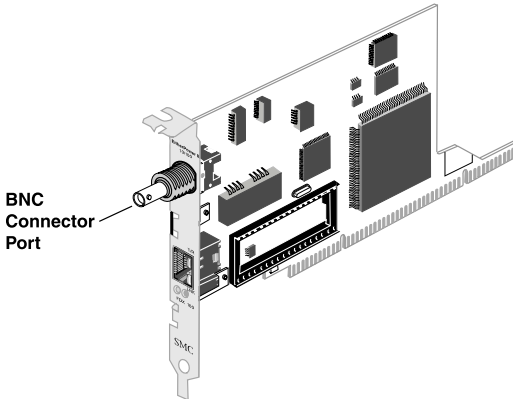
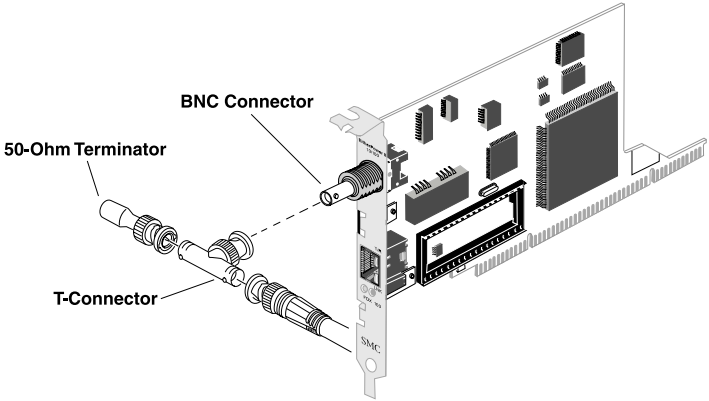

Figure 2-2. BNC Connector Port (SMC9432BTX)
Figure 2-3. Connecting a Thin Coax Cable
The SMC9432BTX provides a BNC connector that supports a thin coax cable network connection (see Figure 2-2). Connection to a thin coax cable requires a BNC T-Connector, as shown in Figure 2-3 on the following page.
3. Attach one end of another thin coax cable to the other side of the T-Connector. If the network card is at the end of the cable, attach a 50-ohm terminator to the T-Connector, as shown in Figure 2-3.